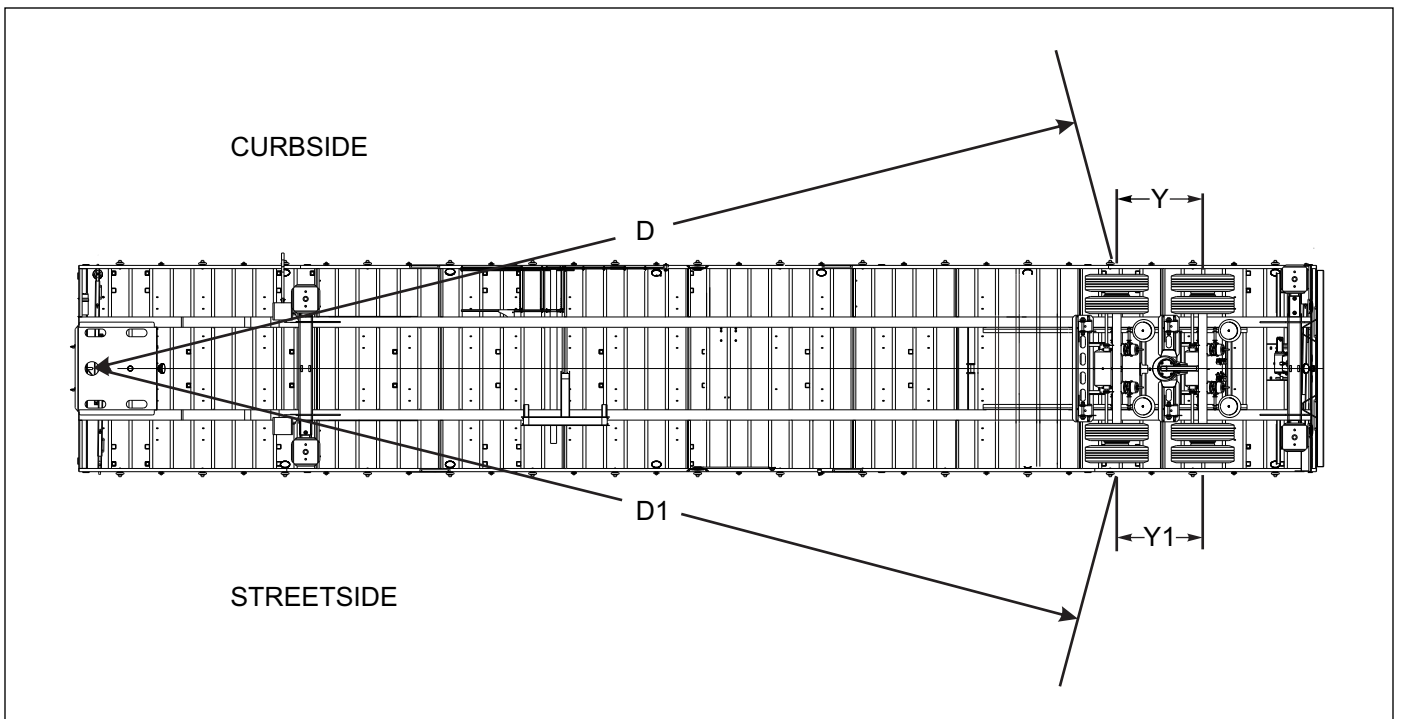

Figure 4-8: Checking Axle Alignment
4. Measure (D) from the plumb bob to the center point on one end of the axle. Record this measurement **(See Figure 4-8.)**
5. Measure (D1) to the other end of the axle in the same manner as in **step 4**. Record this measurement **(See Figure 4-8.)**